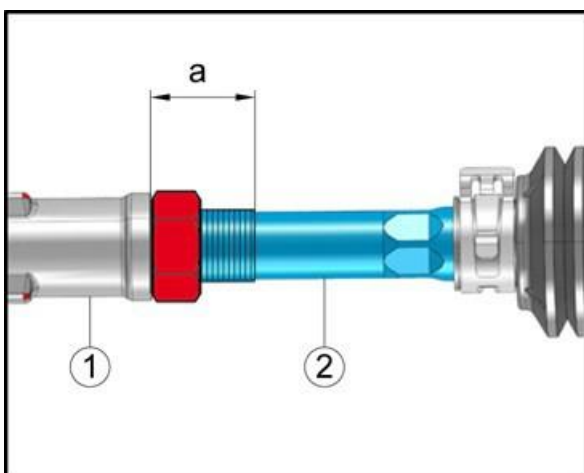

Figure 1
- Referring to Figure 1 - Take photographs of the track rod end threads before and after alignment (left and right hand side) the photographs must be attached to the DISS query